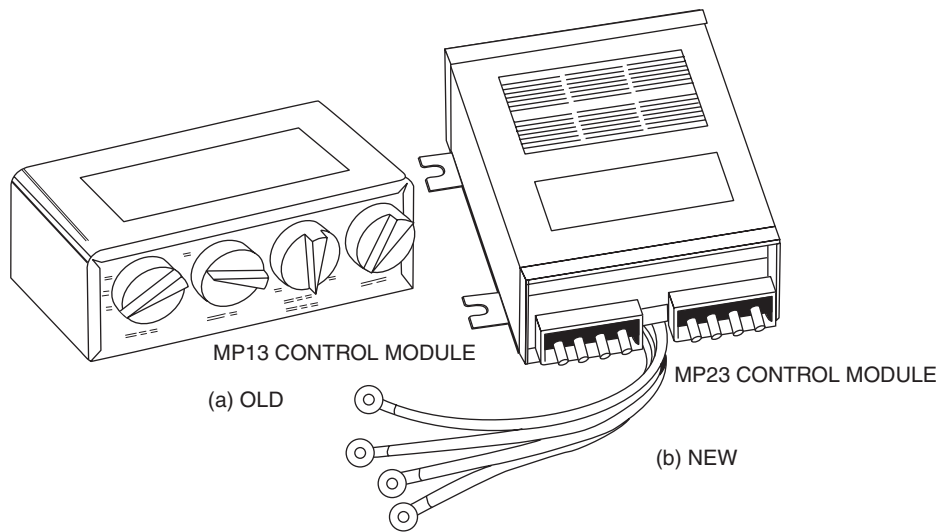

Fig. 3-47 Solid-state control modules. (A) Older unit. (B) Newer unit. (Robertshaw)
2. The control module is a sealed enclosure containing a transformer and switch. Figure 3-47 shows two models.